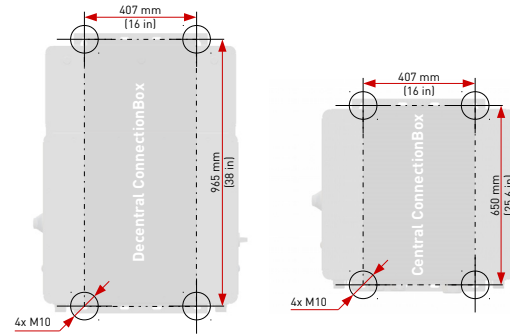

Fig. 14: Mounting dimensions
1. Mount the mounting rails as shown in Figure 14. Ensure that the ConnectionBox has an angle of at least 10°.